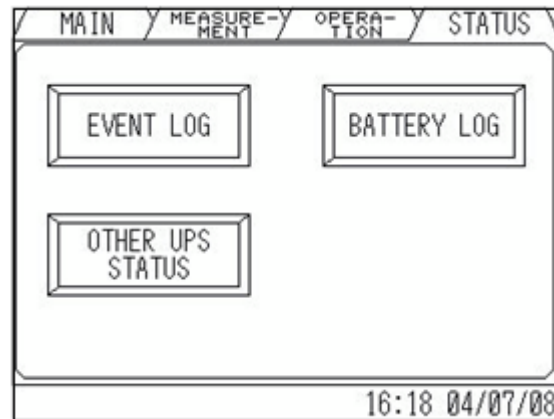
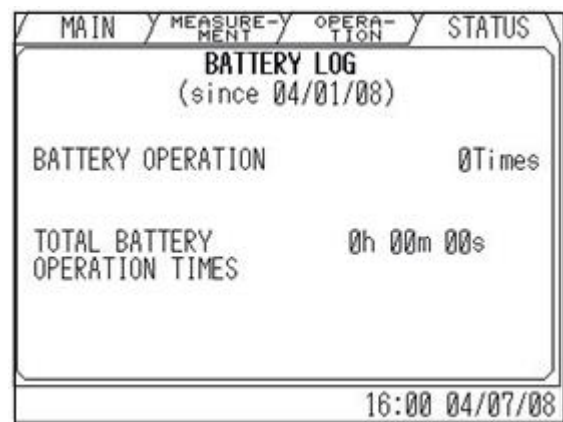

Figure 4-11 Log Menu
Figure 4-13 Battery Log
D) STATUS MENU (Figure 4-11 to Figure 4-13)